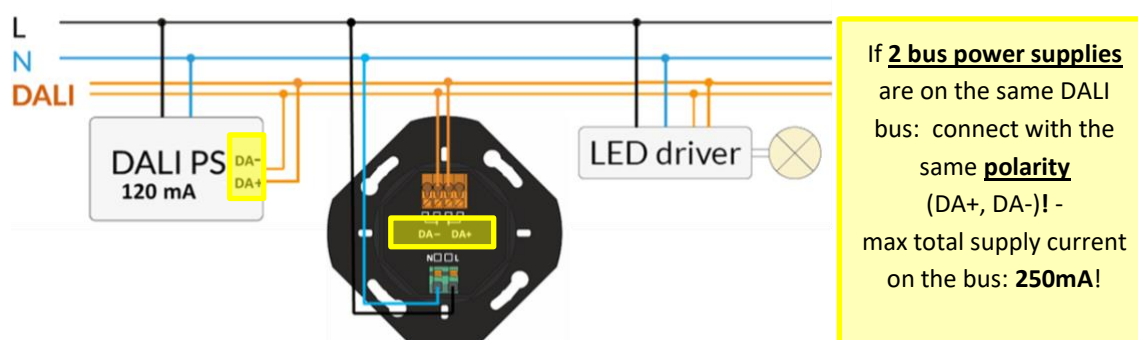

Figure 1. Installation Example DALI-2 ROT PS with additional DALI PS on the DALI Bus
- **DALI ROT PS:** If 2 or more bus power supplies are on the same DALI bus, they need to be connected with the same polarity! (connectors marked with DA+, DA-), see Figure 1, page 8.